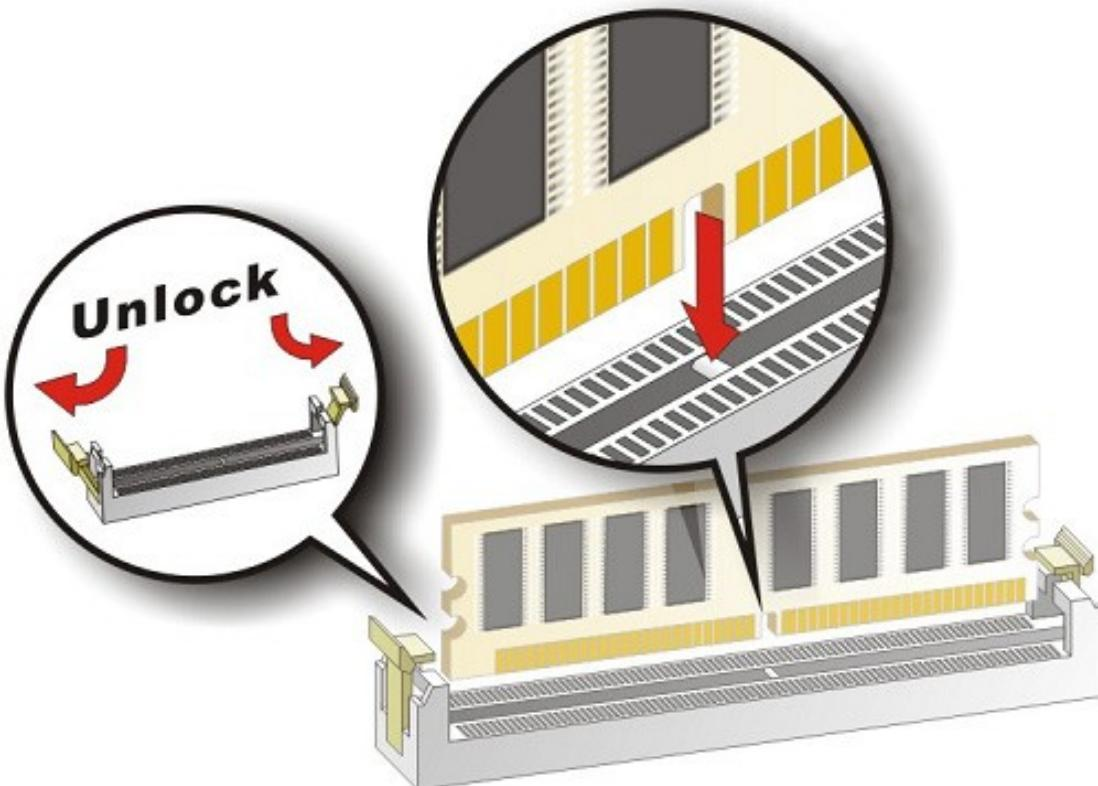

Figure 4-6: DIMM Installation
To install a DIMM, please follow the steps below and refer to **Figure 4-6**.
Step 1: Open the DIMM socket handles. Open the two handles outwards as far as they can. See **Figure 4-6**.
Step 2: Align the DIMM with the socket. Align the DIMM so the notch on the memory lines up with the notch on the memory socket. See **Figure 4-6**.
properly seated. Clip the two handles into place. See **Figure 4-6**.